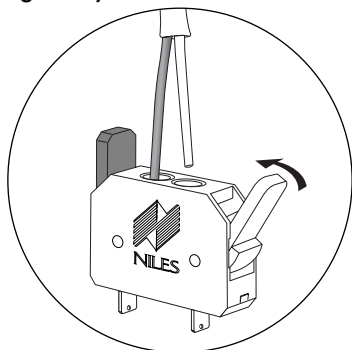

Figure 14
3. Insert one unstripped wire fully into the black and one into the red terminal. Pay attention to the markings on the wire. Each speaker must be connected to the amplifier in the same way. If unsure, see section “Speaker Phase” located on the following page. Squeeze the red and black levers until they click signifying that they have locked into the wire. Check to make sure that the knife assembly inside the no strip connector has properly pierced the wire (See Figure 14).